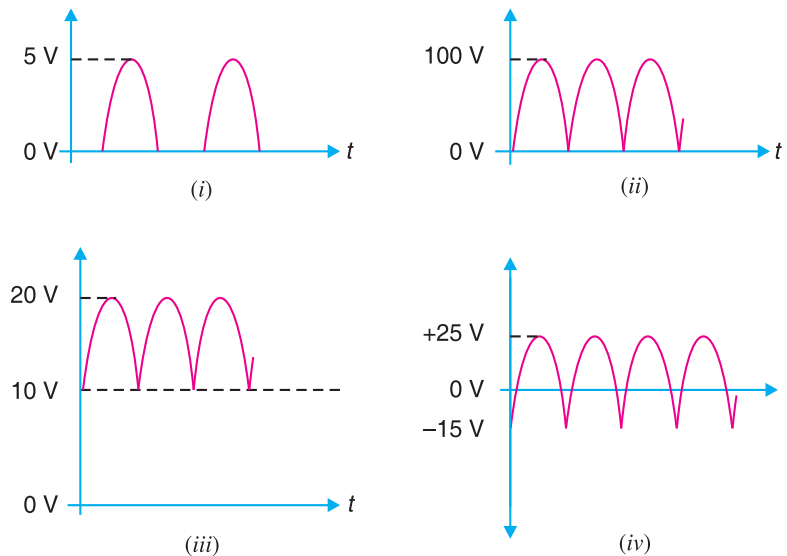

Fig. 6.78
11. Find the average value of each voltage in Fig. 6.78. [(i) 1.59 V (ii) 63.7 V (iii) 16.4 V (iv) 10.5 V]